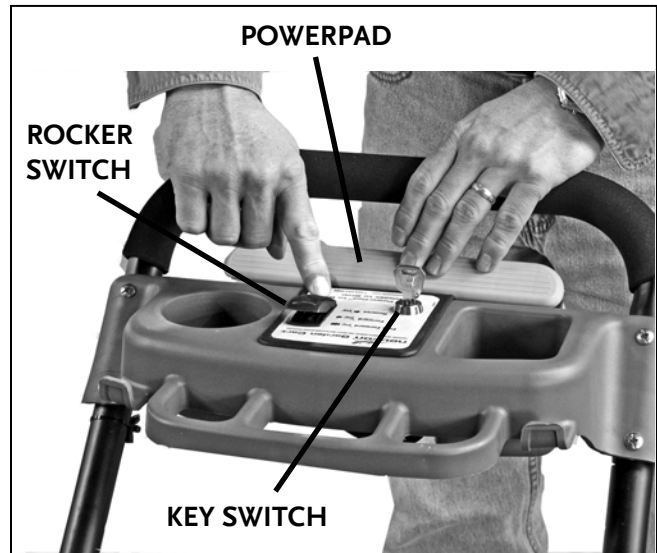

Figure 13. Moving backwards, the Rocker Switch held in reverse position.
1. Press and **HOLD** the Rocker Switch to reverse, it's the backward switch position (*Figure 13*).